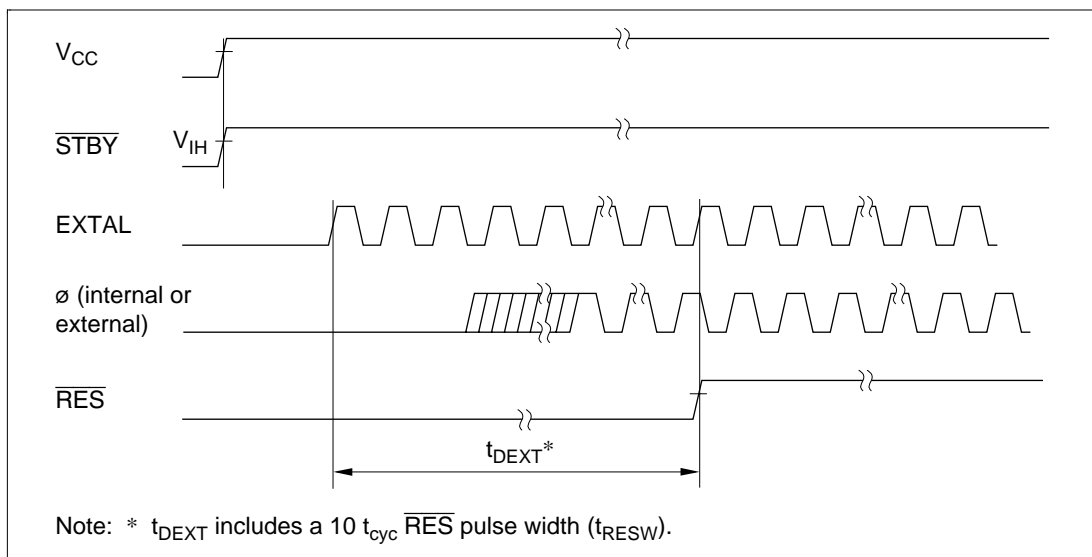

Figure 23.26 External Clock Output Stabilization Delay Time
23.5.11 External Clock Output Timing	Figure 23.26